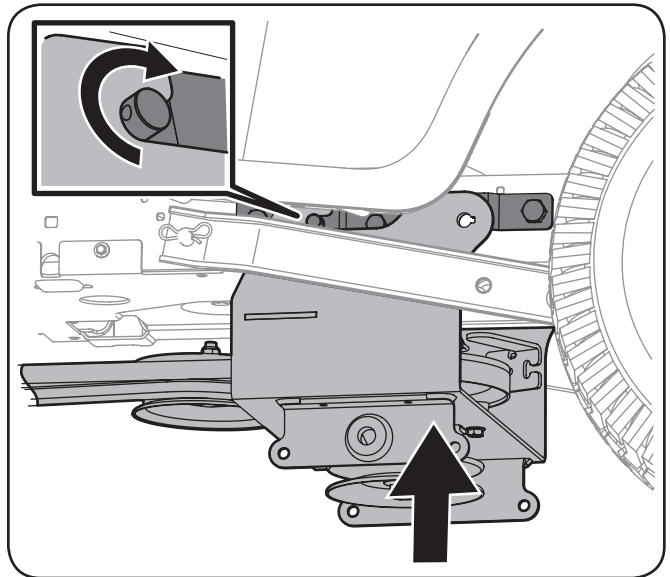

Figure 3-7
- Carefully raise the carriage up and position the slots on the front of the carriage over the pins on the support brackets. See Figure 3-7.